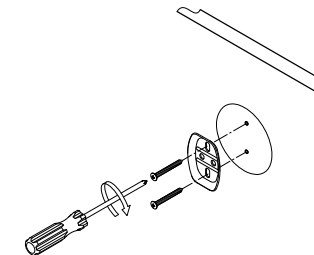

Fig. 5
- Step 4. Screw the mounting plate (with the lips facing out) to the wall with the mounting screws (Fig 5).